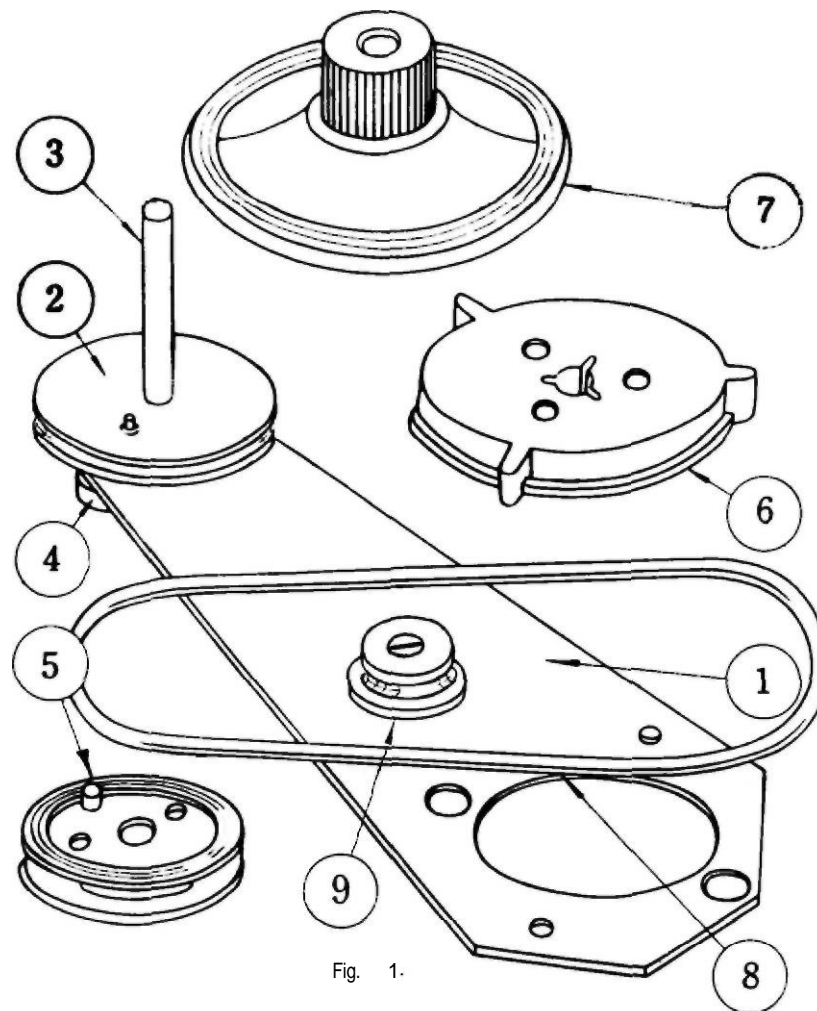
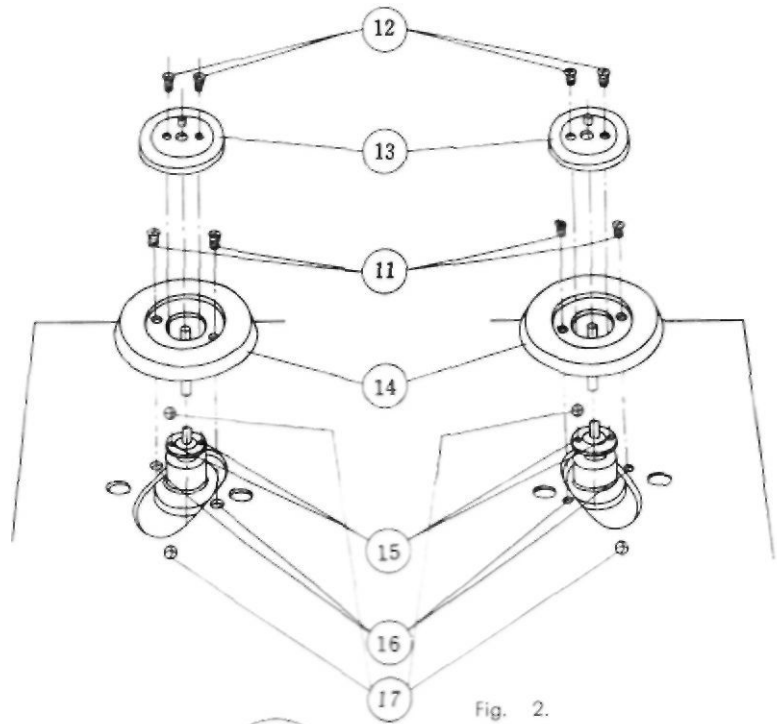

Fig. 1.
Fig. 2.
1. COMPONENT PARTS : (Refer to Fig. 1.)
2. Preparation: (Refer to Fig. 2.)
Set the Reel Adapter Arm in Holes (17) shown in Fig.2 using Motor set screws (17). By using reel table set screws (12) previously removed in Fig. 2, 7" reel table with groove for Belt (5) mentioned in Fig. 1 of "Accessories" shall be put in holes (15) of Fig. 2 and be tightened.